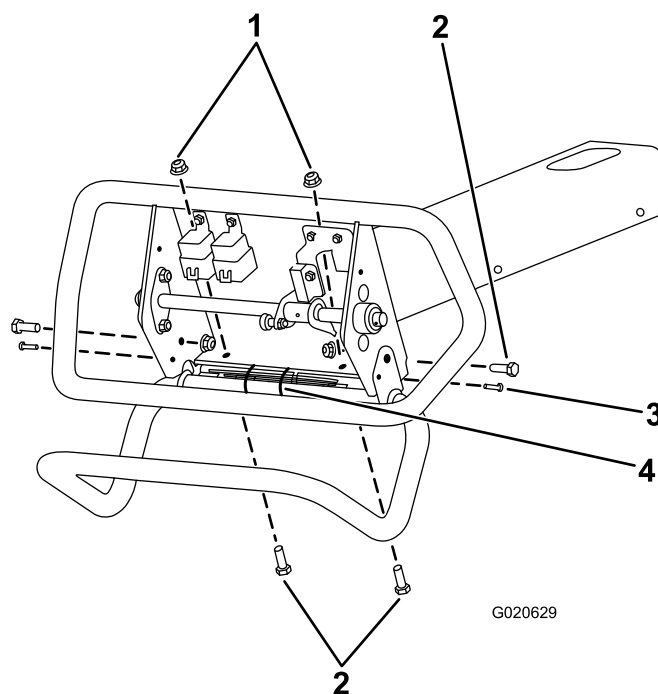

Figure 5
1. Align the holes of the handle to the holes of the frame (Figure 5).
2. Loosely assemble the 2 hex-head bolts (#10-24 x 3/4 inch) through the handle, frame holes, and control cover (Figure 5).
3. Secure the handle to the frame using the 4 hex-head bolts (3/8 x 1 inch) and the 4 flange nuts (Figure 5).
4. Secure the 4 hex-head bolts (#10-24 x 3/4 inch) that mount the cover to the frame (Figure 5).
5. Install the two cable ties that secure the wire harness to the frame (Figure 5).